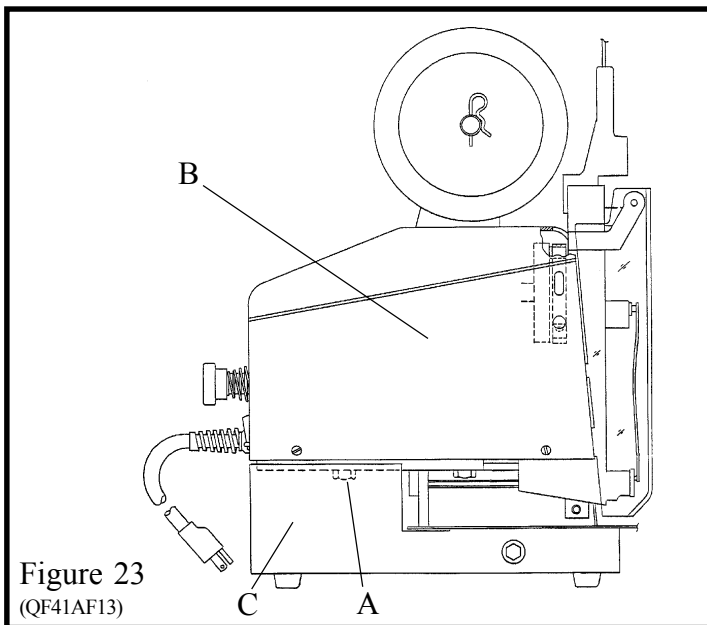

Figure 23
2. Loosen the four bolts (Index A, Fig. 23) securing the base (Index B) to the stand (Index C).